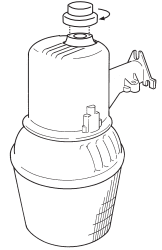

Fig. 5
Step 3: Push sensor down into receptacle and twist clockwise 1/4 of a turn to lock in place (Fig. 5).